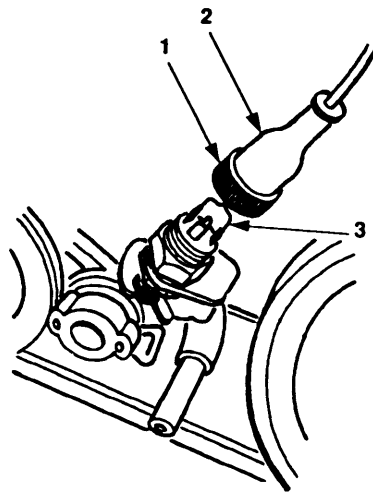

Figure 4-13. V-Belt Contact Switch Test.
- a. Loosen nut (figure 4-13, 1) securing boot (2), and slide up harness.
- b. Disconnect wires from V-belt contact switch terminals (3).
- c. Using multimeter set for continuity, measure resistance of V-belt contact switch terminals (3) for open.